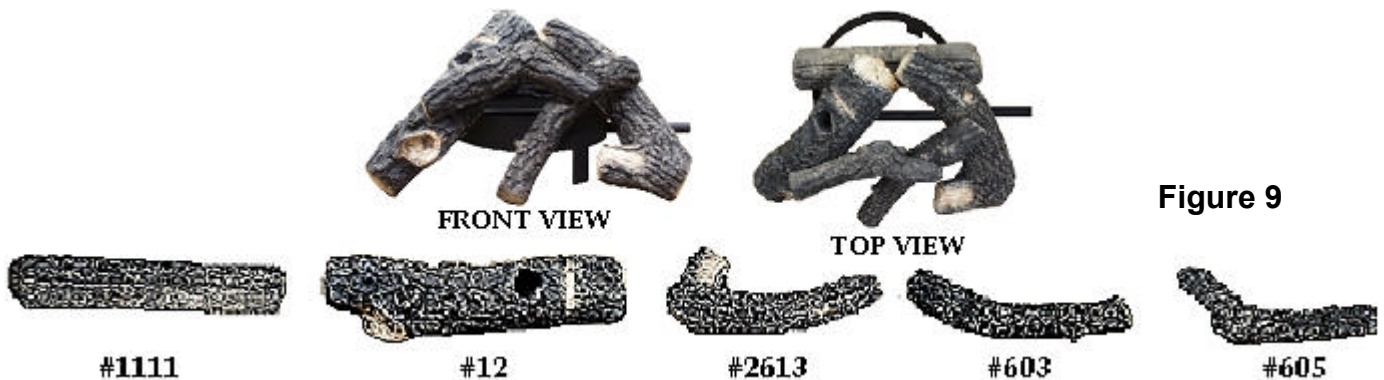

Figure 9
5. Place the (2) middle size logs from the front edge of the chiminea to the top of the largest log creating a “teepee” affect.
6. The (2) twigs are used to hide the exposed area of the burner ring and should be placed from the outside cinder perimeter to the top of the middle logs. **See Figure 9**